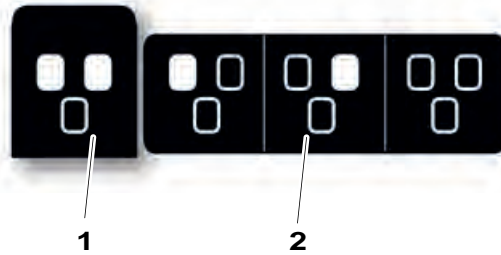

Fig. 3-26 AEC field selection
When selecting the *AEC field* button, a pop-up-window with the different AEC fields according to Fig. 3-26 *AEC field selection*, will appear. The *AEC fields* are activated by a selection in the pop-up window to the right (2). All activated *AEC fields* will be shown in the left picture (1). *AEC fields* are deactivated by selecting them again in the pop-up window (2).